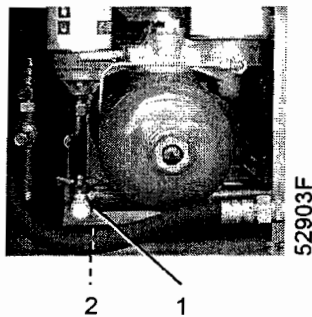

Fig. 3.1 Transport spacer GX5-11
2. **For GX5-11:** Unscrew the 3 bolts (1-Figs. 3.1 and 3.2) and remove the red transport spacers (2).
Figs. 3.1 up to 3.5 Transport spacers